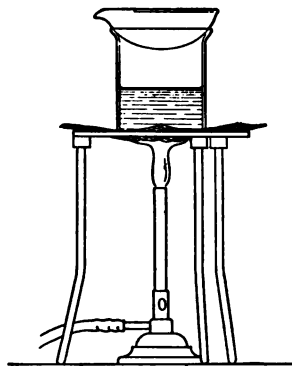

FIG. 25
**b.** Accurately weigh a small evaporating-dish and a glass stirring-rod. Introduce about 10 cc. of milk and reweigh. Evaporate to dryness on a water bath (Fig. 25), stirring the contents often with the glass rod. When the liquid has entirely evaporated, remove the beaker from the bath, cool, and weigh. From your results determine the percentage of residue in the sample of milk. Vinegar may be used instead of milk.